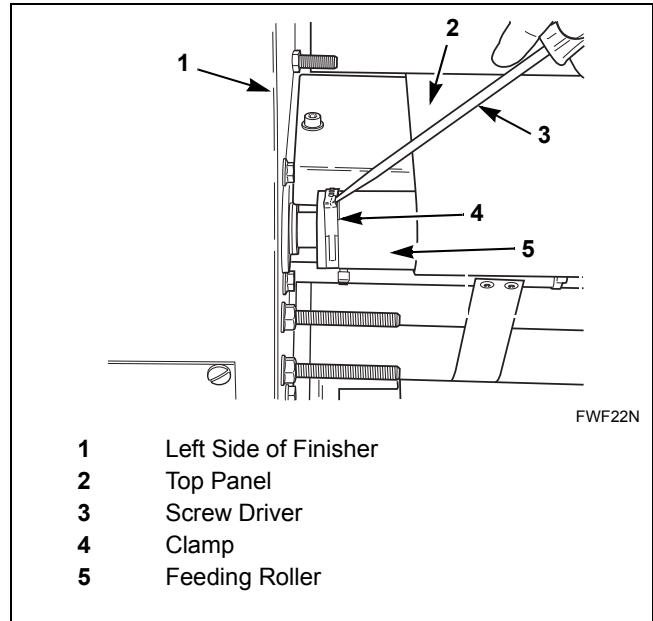

Figure 28
1. With a standard screwdriver, pop clamp open at left end of feeding roller. Refer to *Figure 28*.